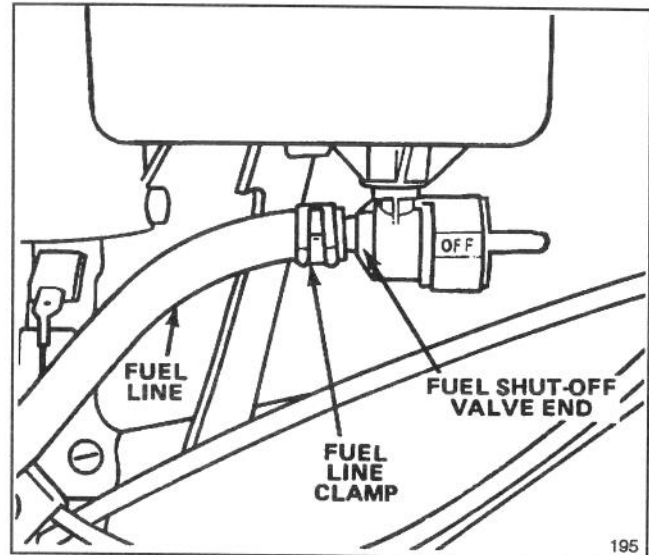

Figure 7
5. Connect fuel line by sliding fuel line clamp onto end of fuel line. Slide end of fuel line onto fuel shut-off valve end (Fig. 7). Secure in place with fuel line clamp.